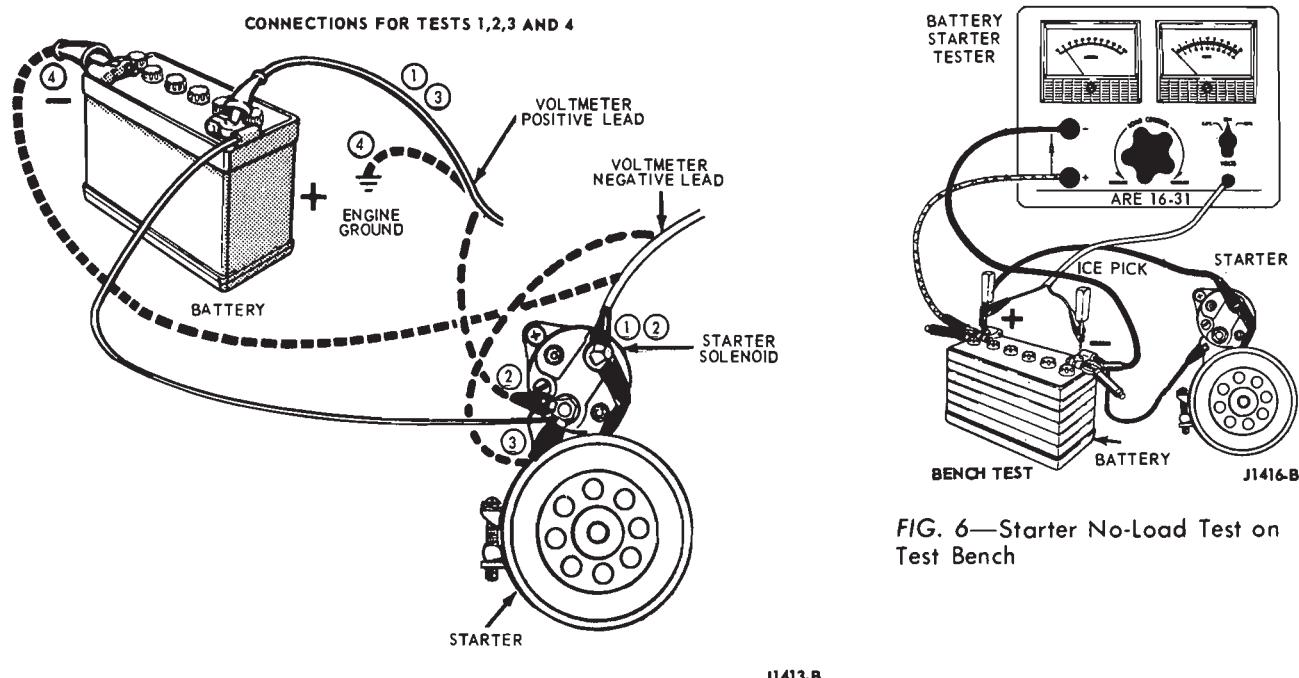

FIG. 4—Starter Cranking Circuit Test
These tests will determine whether or not there is excessive resistance in the cranking circuit. Make each test connection as shown in Fig. 4. While cranking the engine, observe the volt-
1. With the voltmeter negative lead connected to the starter terminal and the positive lead connected to the battery positive terminal (Fig. 4, connection No. 1) 0.5 volt.
2. With the voltmeter negative lead connected to the starter terminal and the positive lead connected to the battery terminal of the starter solenoid (Fig. 4, connection No. 2) 0.3 volt.
3. With the voltmeter negative lead connected to the battery terminal of the starter solenoid and the positive lead connected to the positive terminal of the battery (Fig. 4, connection No. 3) 0.2 volt.
4. With the voltmeter negative lead connected to the negative terminal of the battery and the positive lead connected to the engine ground (Fig. 4, connection No. 4) 0.1 volt.